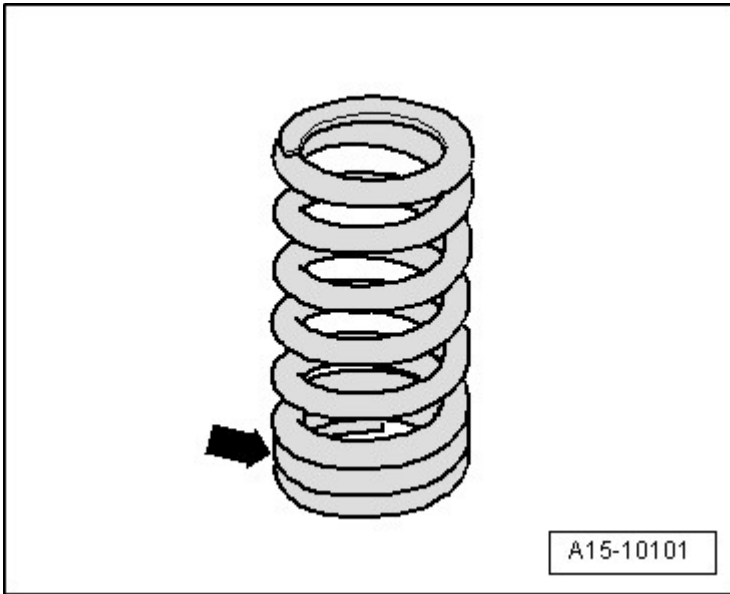

Fig. 19: Identifying Tight Spring Coils
- Installed position, refer to **Fig. 19**